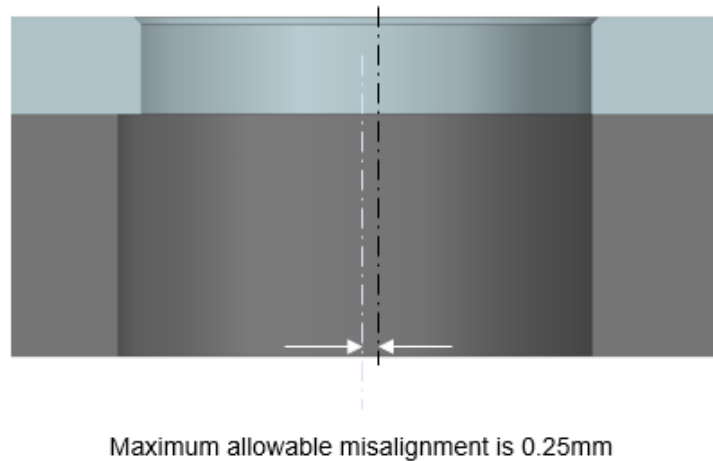

Figure 5.3.2
- b. Maximum misalignment of Busbar Hole and Fixture Hole should be no more than 0.25mm to avoid any stubbing during press. Refer to below figure 5.3.2.